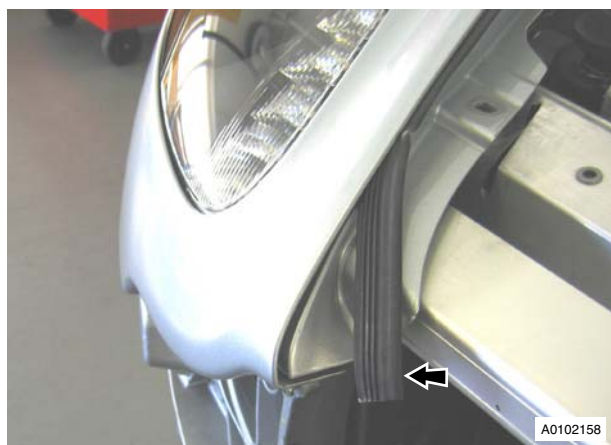

Figure 12
18. Remove hood/wing weatherstrip (see Figure 12).